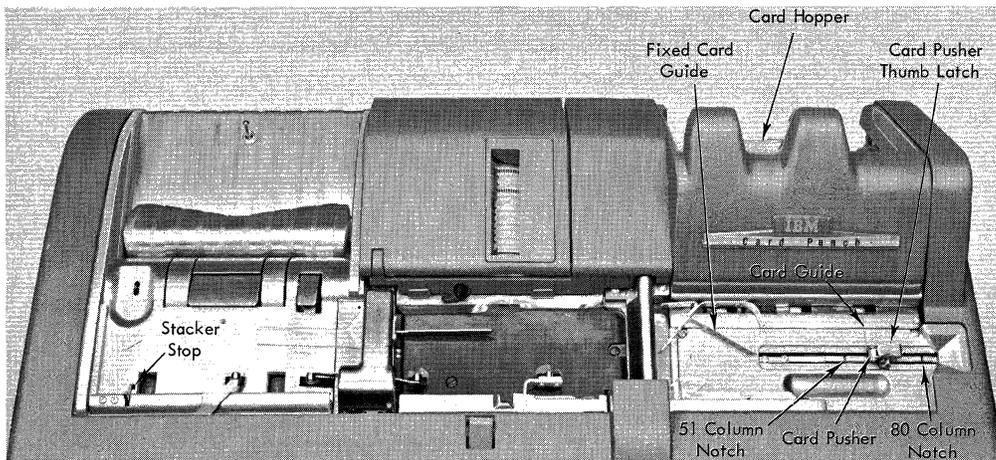

Figure 20. Variable-Length Card Feed Device
The variable-length card feed feature on the 24 or 26 allows the processing of 51-, 60-, 66-, and 80-column cards (Figure 20). Special features that apply to the 24 or 26 can be used with this feature.
2. Lift the thumb latch and move the card pusher to the proper card-column notch (see Figure 20). A spring guides each card under the card pusher for correct feeding position.
3. Align 51- and 60-column cards to the stacker drum by pulling the stacker stop operating lever toward the front of the machine (see Figure 20). For 66- and 80-column cards, push the lever back.